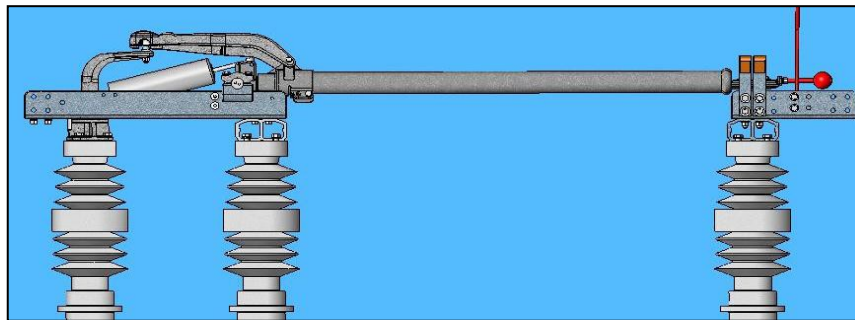

Figure 18: Switch – Fully Closed Position
- 6.3.1. Start with the disconnect switch and operating mechanism in the closed position. Refer to **Figure 18**.